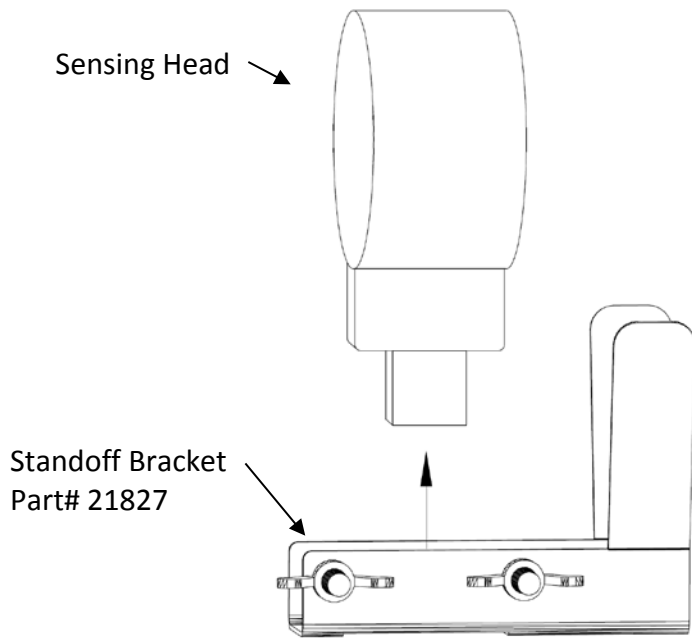

Figure 4-2-2
The standard instrument used for measuring the filter/Extractor velocities of a Gaylord Ventilator is a Pacer Model DA400, 2.75" Rotating Vane Anemometer (Refer to Figure 4-2-1). A Gaylord standoff bracket part number 21827 (Refer to Figure 4-2-2) is used only when measuring airflow for Ventilators that use Baffle Filters. Both the Pacer Anemometer and standoff bracket are available from the Gaylord Parts Department. For alternate methods of measuring the airflow, such as flow grids or hoods, consult that equipment's user manual for specific details on how to determine airflow.
7. **Important:** If the Ventilator is equipped with Listed Baffle Filters install the 2 inch standoff bracket, GPN 21827, as shown in Figure 4-2-2 to the sensing head. This will create a 2" standoff between the sensing head and the Baffle Filter. **Very Important Note: If the Ventilator is equipped with Gaylord XGS Extractors do not install the 2" standoff bracket.**